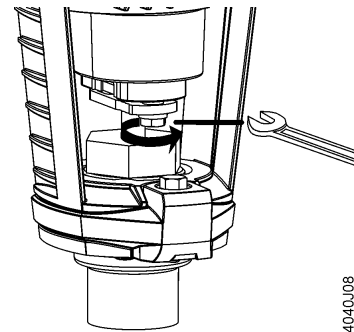

Figure 10.
8. Secure the stem connection plate by tightening the bolt, using a 10 mm wrench (or 4 mm hex key). See Figure 10.